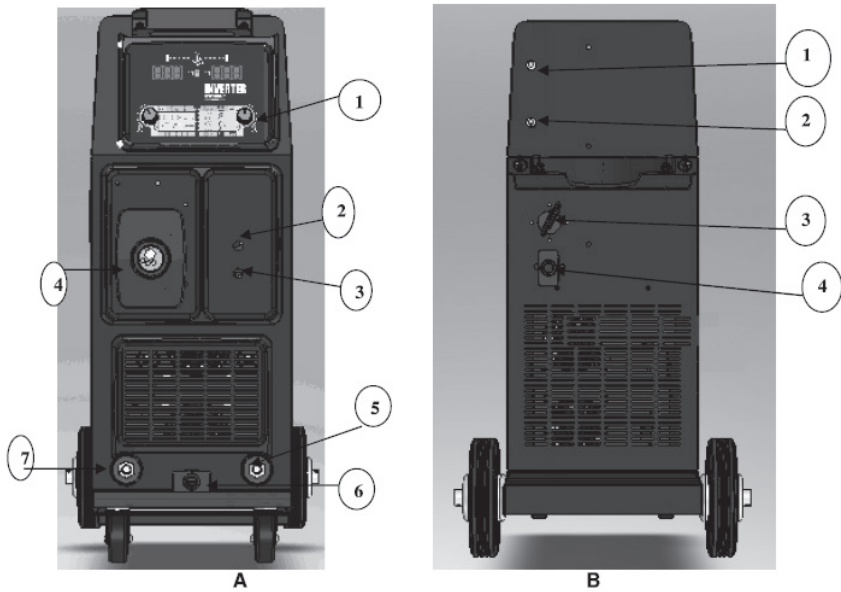

Fig 1
- 2) Connect the plug of the work clamp to the Negative socket “-” and the plug of the cable GAS I NO GAS (Figure 1.A.4) to the Positive socket “+” on the machine.